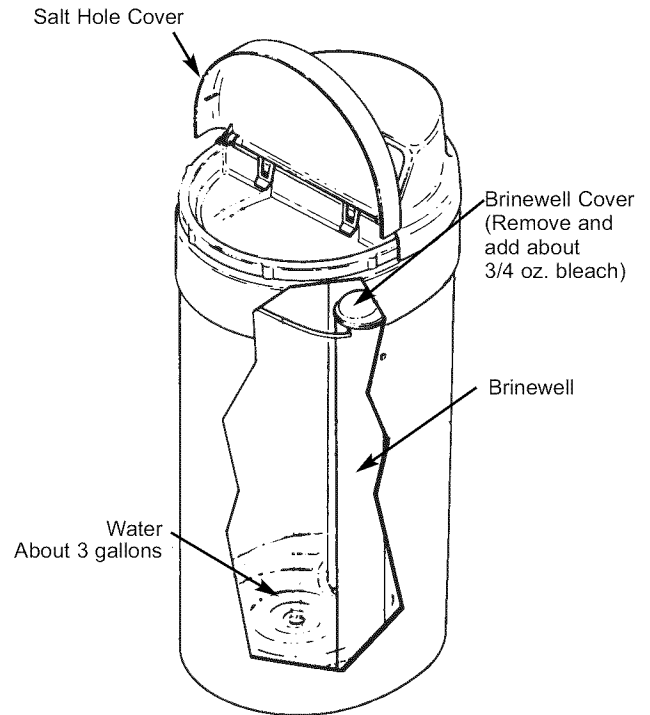

FIG. 28
3. Remove the brine well cover (Fig. 28) and pour about 3/4 ounce, or 1 to 2 tablespoons, of common 5.25%1, *unscented*, household bleach (Clorox, Linco, BoPeep, White Sail, Eagle, etc.) in the softener brinewell. Replace the brinewell cover.